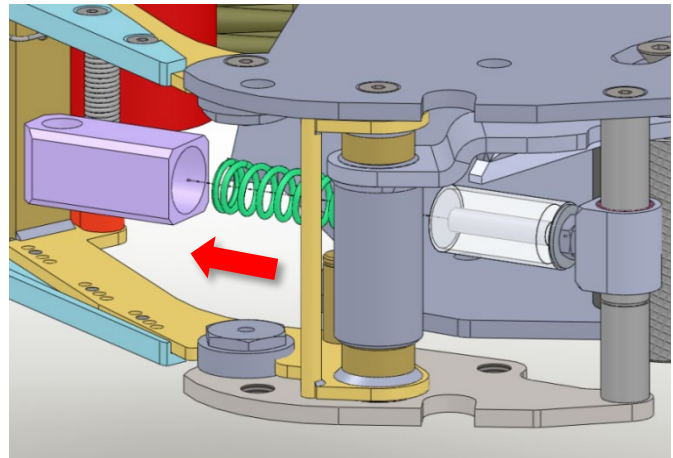

Figure 10-9
3. Remove the spring barrel from overlapping position as shown in Figure 10-9. Remove any broken particle from the spring guide. Install new compression spring into the captive position.